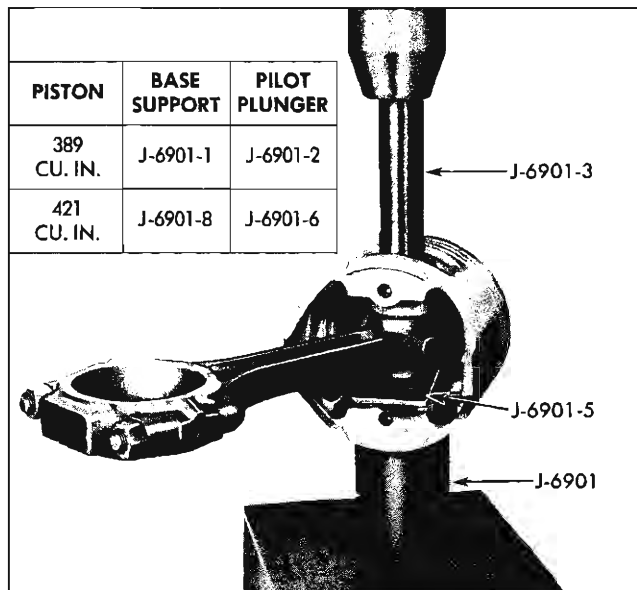

Fig. 6-63 Piston Positioned in Arbor Press for Removal of Pin
2. Using a suitable arbor press place the spring and plunger into the bore of the base support and position on an arbor press with the pilot plunger indexed in the bottom of piston pin bore. See Fig. 6-63 insert for correct base support and pilot plunger for the type pistons being serviced.
3. Place tool J-6901-5 between connecting rod and piston boss (Fig. 6-63).
4. Place tool J-6901-3 (Fig. 6-63) in piston pin and press piston pin down until pilot bottoms in tool J-6901.